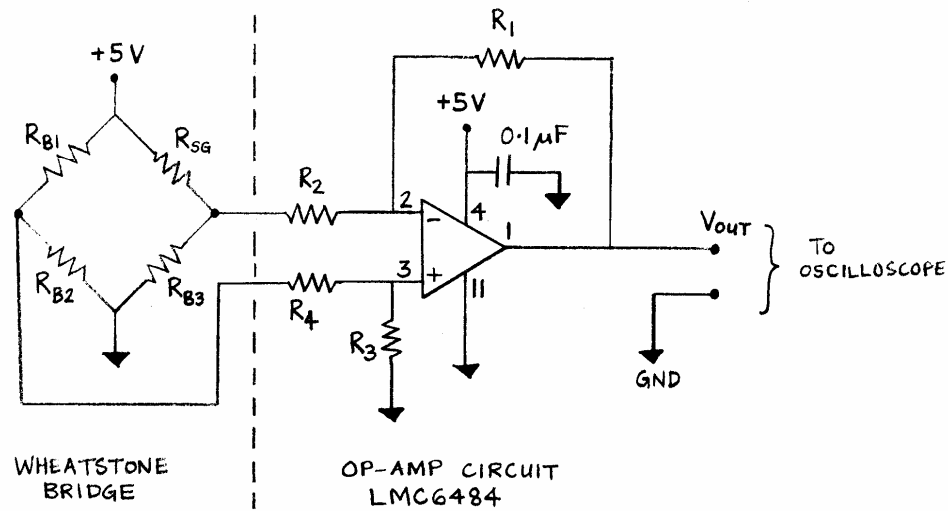
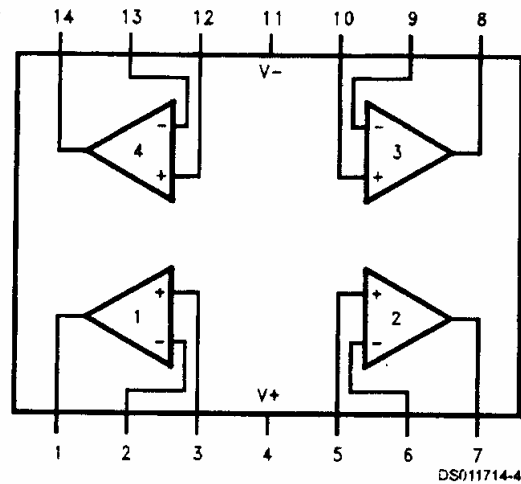
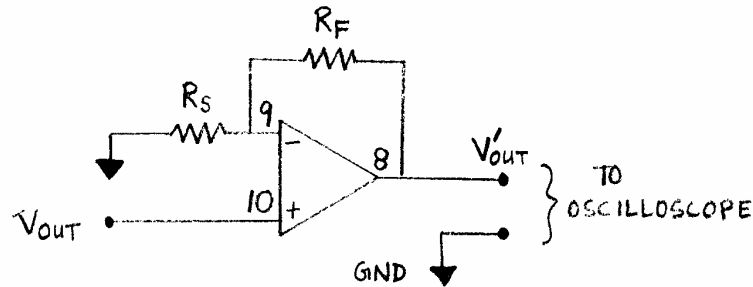

Figure 3. Analog sensor circuit for using a strain gage as a deflection sensor
Figure 4. LMC6484 op-amp connection diagram
Figure 8. Noninverting operational amplifier circuit diagram
1. Build the analog circuit shown in Figure 3 on an electronic breadboard. Remember to use red wire for positive power connections and black wire for ground connections. Since the strain gage has a resistance of (approximately) $R_{SG} = 350\Omega$, the resistors* on the remaining three arms of the Wheatstone bridge should be matched such that
The voltage output from the Wheatstone bridge is amplified by the LMC6484 operational amplifier, shown on the right side of the dotted line in Figure 3. Although the LMC6484 chip contains four op-amps with identical capabilities (see Figure 4), you will use only op-amp number one at this time (LMC6484 pins 1, 2, and 3).
1. Add the circuit shown in Figure 8 to the circuit you built in Experiment #1. Use op-amp number three (pin numbers 8, 9, and 10) on the LMC6484 chip (Figure 4). Choose the source resistor R_S and the feedback resistor R_F such that